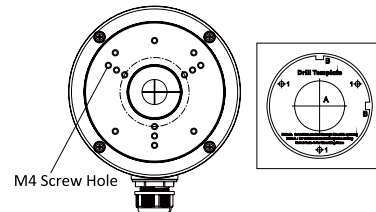

Figure 2-4 Drill Template with Gang Box
1. Attach the supplied drill template to the ceiling/wall according, as shown in Figure 2-4.